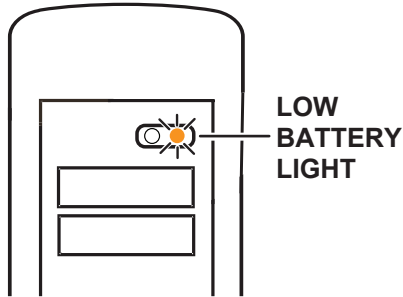

Figure 10. Flashing orange battery light
- When the orange power indicator on the pendant control is flashing (Figure 10).
- The orange low battery light flashes when the table is on (Figure 10).